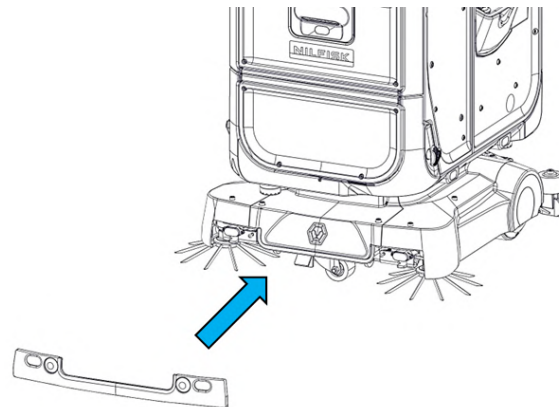

FIGURE 2-6
4. Secure the cover by pushing the cover firmly back such that the 2 mating metal rods locks with the buttons, if it does not go in, depress the 2 buttons and try again **(Fig. 2-6)**.